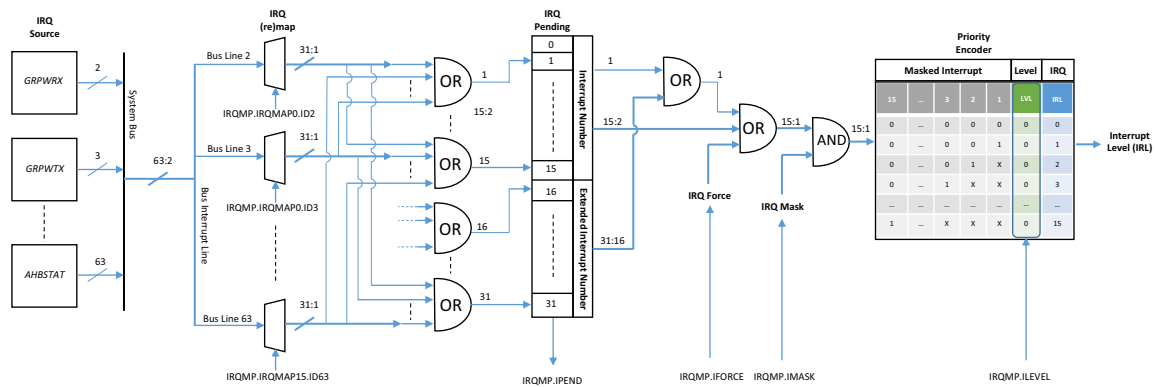

Figure 71. System and Interrupt controller block diagram
**Extended interrupt number 16 - 32** are grouped and OR:ed into **Interrupt number 1** depict in figure 71. **Extended interrupt number 16 - 32** has no level control and have no prioritization between individual interrupts.